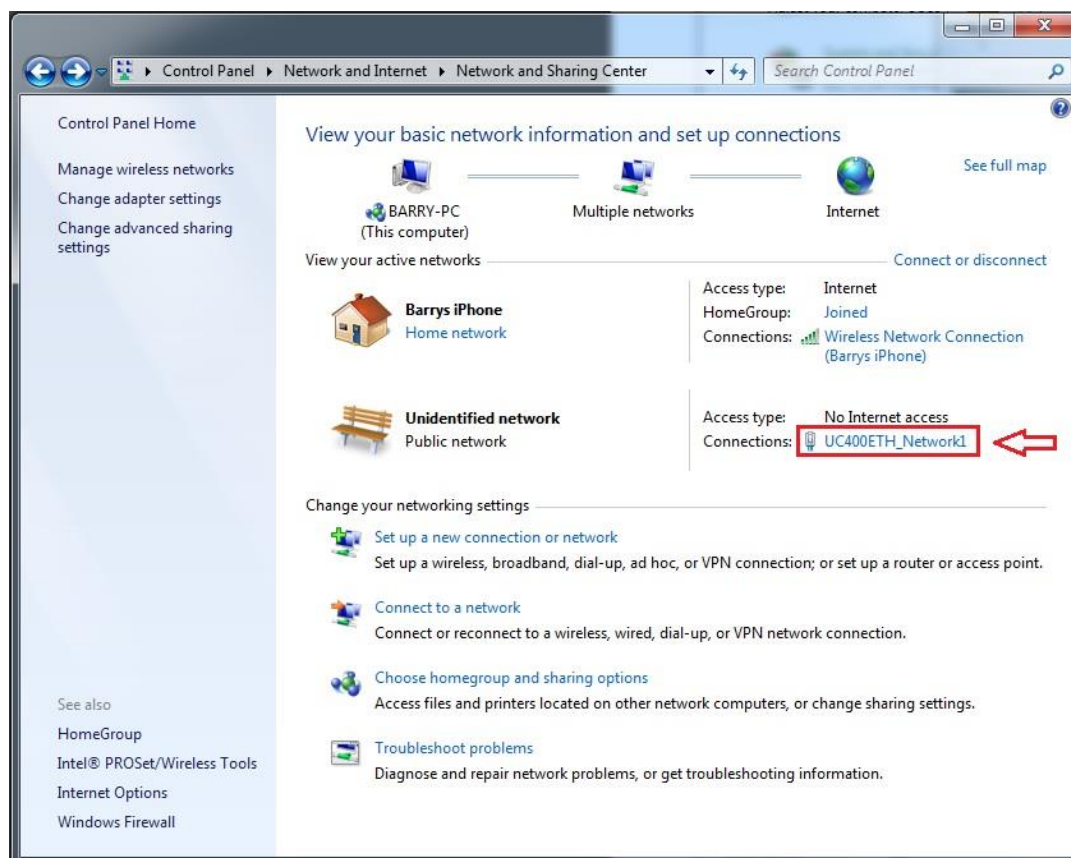

Figure 26: Networks and sharing centre - Non-Identified Connections
- 2- Find the network connection in the non-identified connections list and click on its name. See Figure 26.